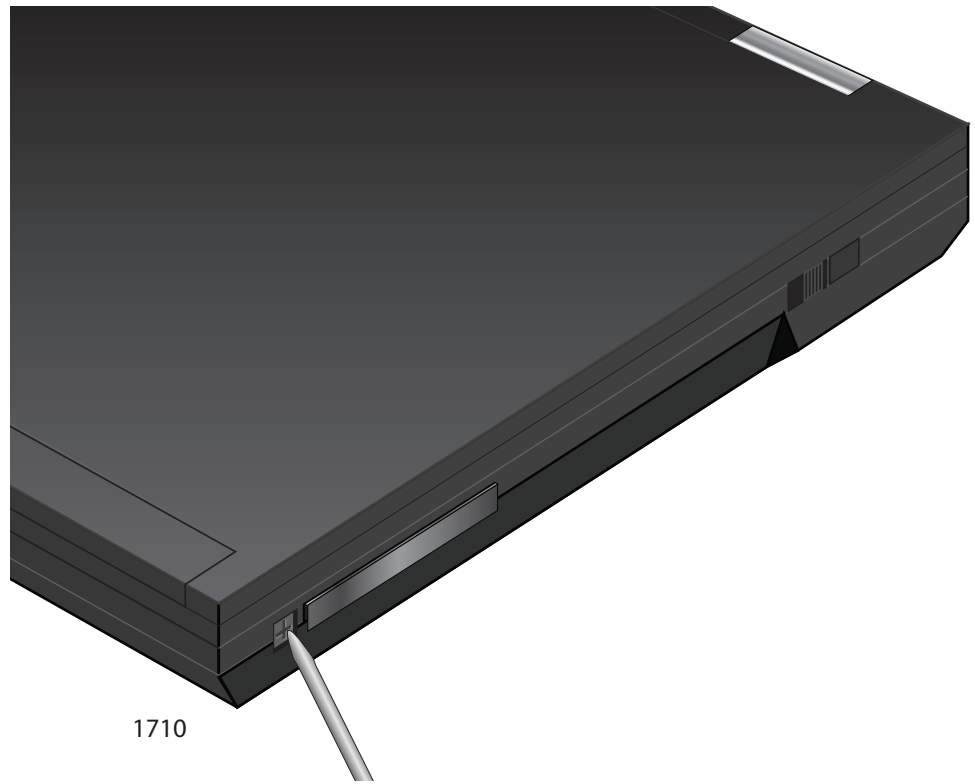

Figure 4. Pressing the Button
3. Use a pen and press the button toward the laptop and to the left. See Figure 4 on page 27.